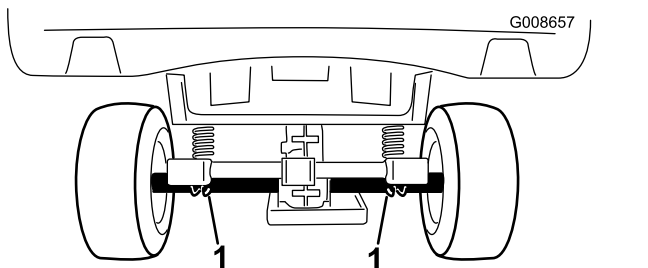

Figure 21
- The lifting point at the rear of the machine is located under the axle tubes (Figure 21).